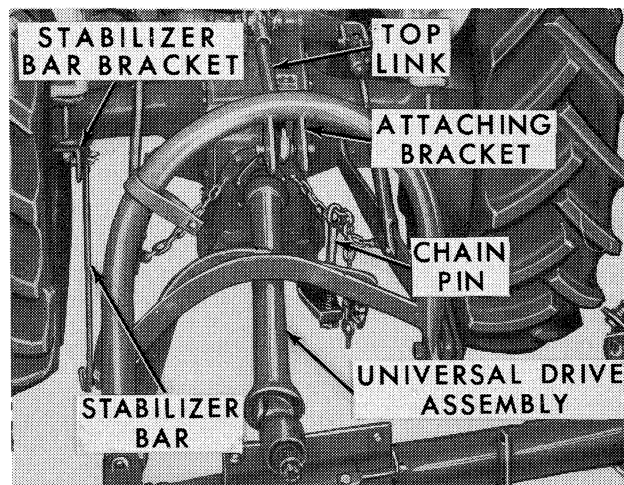

Figure 32
- a. Attach the stabilizer bar brackets, Figure 32, to the tractor rear axle housings.
- b. Attach the stabilizer bars to the brackets, as shown in Figure 32.
- d. Secure the tractor top link, Figure 32, to the mower attaching bracket with the link pin and linch pin.
- g. Depress the spring-loaded lock pin on the front universal of the P.T.O. and slide the joint on the tractor P.T.O. shaft until the pin locks in the groove of the shaft. See Figure 32.
- h. Insert the chain pin, Figure 32, in the tractor drawbar and secure with the toggle in the lower end of the pin.